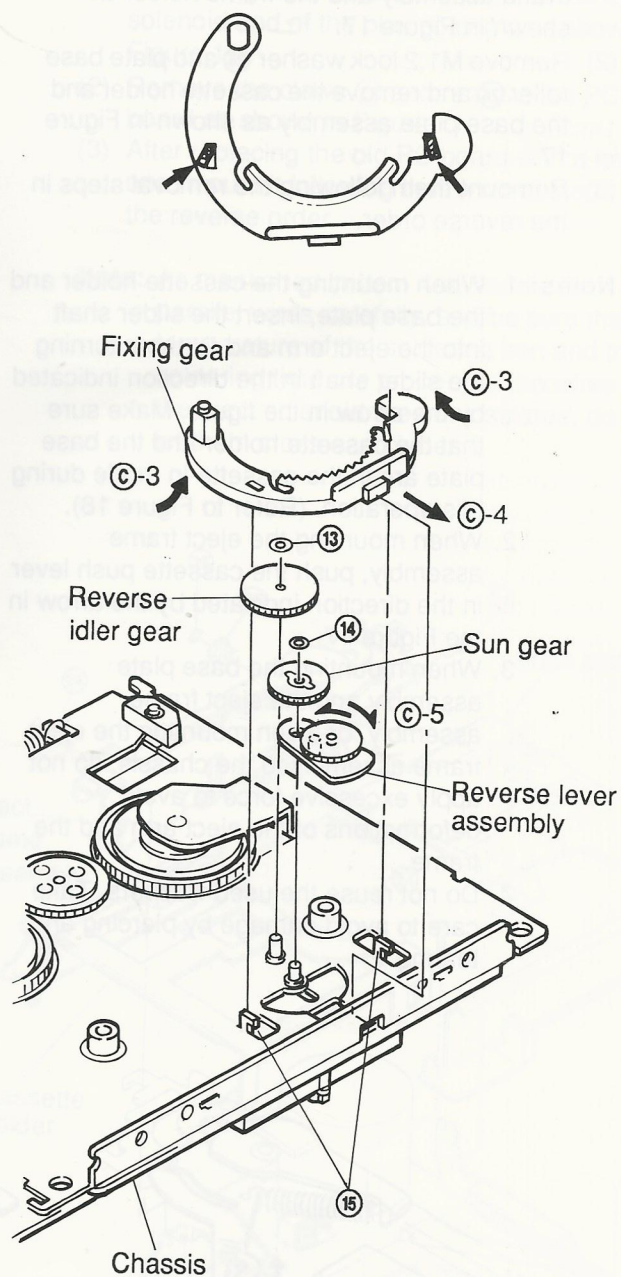

Figure 13
- (1) Remove M1.2 lock washer (13), pull it up from the stud of the chassis and remove the gear as shown in Figure 13.
- (2) Remount following the removal steps in the reverse order.
- (1) Remove M1.2 lock washer (14), pull it up from the stud of the chassis and remove the gear as shown in Figure 13.
- (2) Mount it, following the removal steps in the reverse order.
- (1) Adjust the two mounting claws for the fix gear on the chassis (15) and remove the section C-3 of the gear by pulling it up in the direction of the arrow shown in Figure 13.
- (2) Insert the section C-4 of the new gear into the chassis, and mount it following the removal steps in the reverse order as shown in Figure 13.
- (1) Remove both the fixing gear and the sun gear and remove the reverse lever assembly as shown in Figure 13.